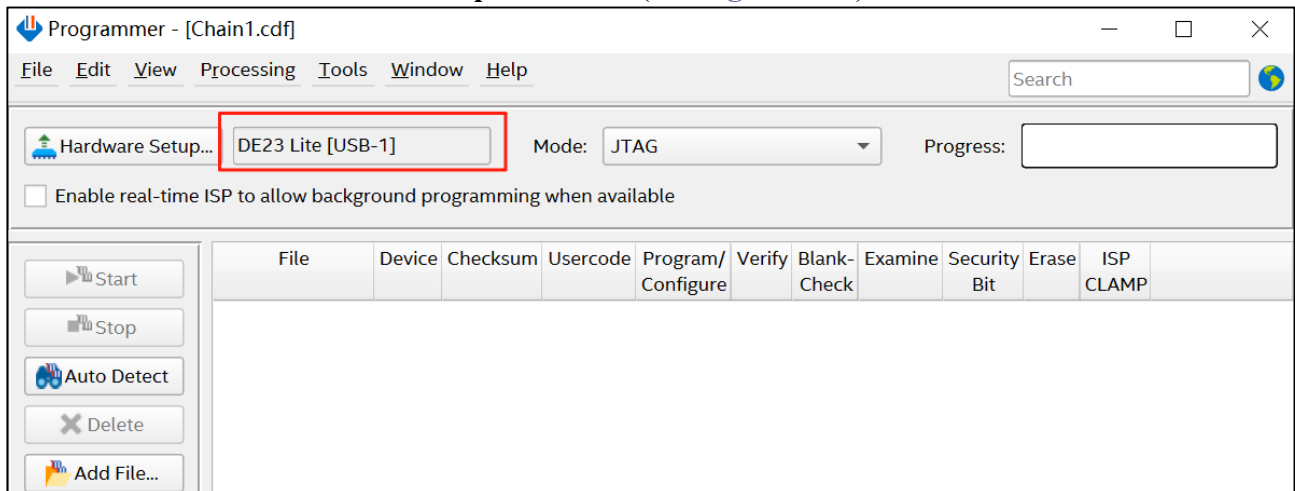

Figure 5-13 Setting USB blaster
3. Return to the **Quartus Prime Programmer** window. First, ensure that the USB Blaster is detected. If it is not, click **Hardware Setup** to select it (see Figure 5-13).